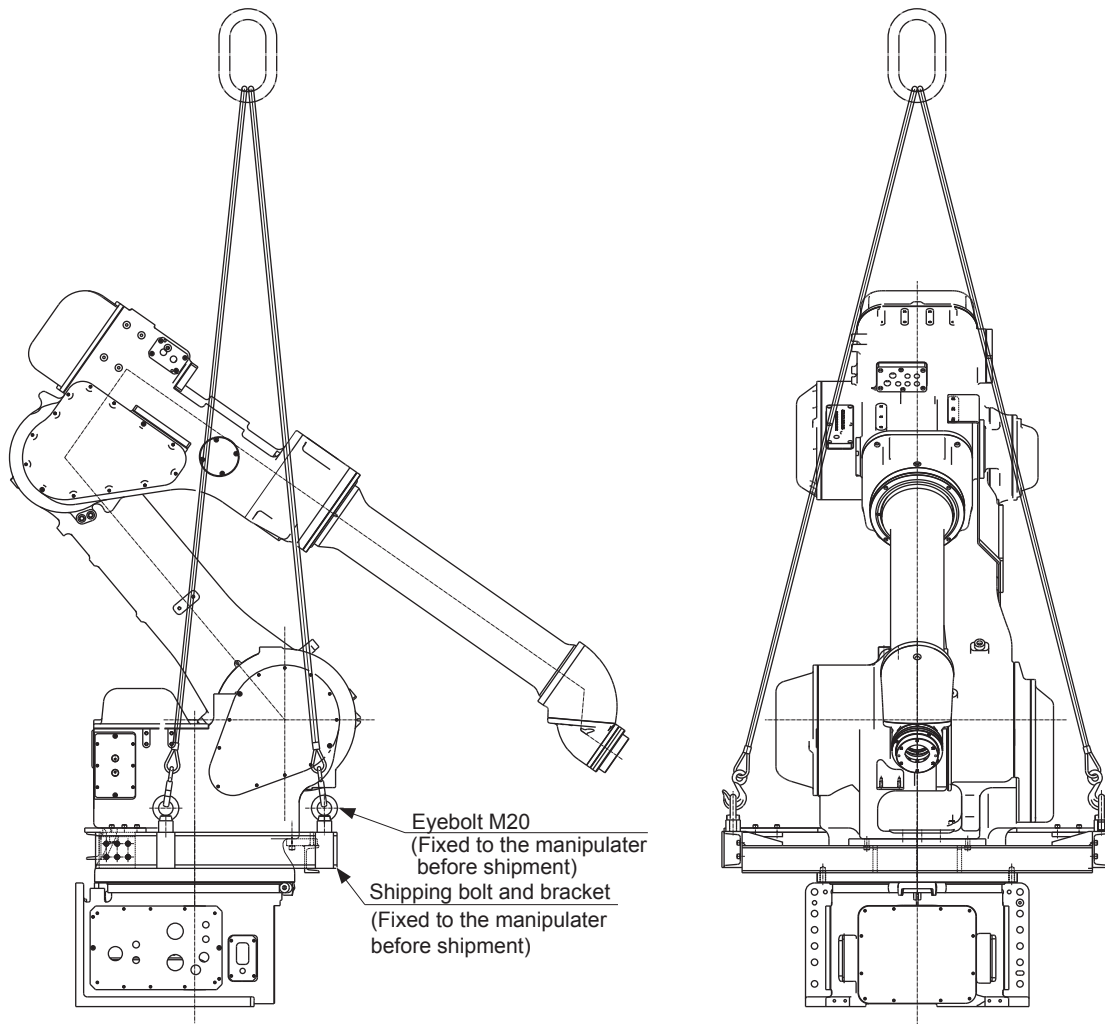

Fig. 4-2 Transport Using a Crane
As a rule, when uncrating the manipulator and moving it, a crane should be used. Lift the manipulator with a wire rope using the attached eyebolts. Make sure to fix the manipulator with shipping bolts and brackets before transport, and lift it in the posture as shown in Fig. 4-2 "Transport Using a Crane".
The manipulator is provided with shipping bolts and brackets at positions as shown in the figures in Fig. 4-2 "Transport Using a Crane", to protect its driving units from various external force during transport.
- Before turning ON the power, check to be sure that the shipping bolts and brackets explained in Fig. 4-2 "Transport Using a Crane" are removed.